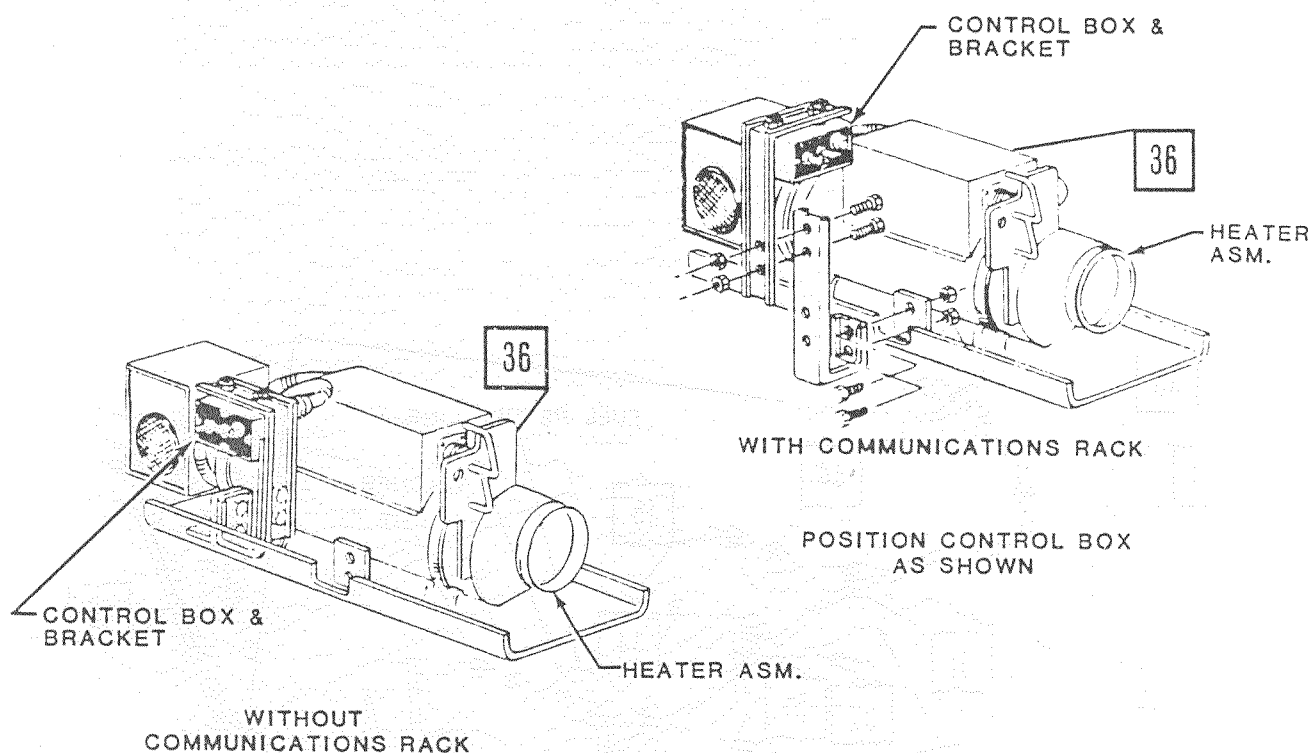

Figure 13.
41. Reposition heater control box, support bracket, and cable clamp for vehicles with a communications rack (Figure 13.). Tighten bolts to 55-85 lb.-in. (6.0-9.5 Nm).